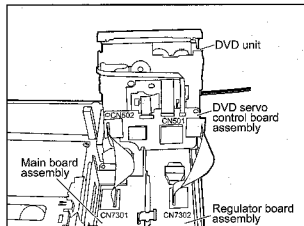

Fig.4-4a
- (1) Remove the DVD unit. (Refer to the SECTION 3 Removing the major parts)
- (2) Connect a extension cord between CN502 of DVD servo control board assembly and CN7301 of Main board assembly. (See Fig.4-4a)
- (3) Connect a extension cord between CN501 of DVD servo control board assembly and CN5302 of Regulator board assembly. (See Fig.4-4a)
- (4) Remove the DVD servo control board assembly attached the DVD unit.